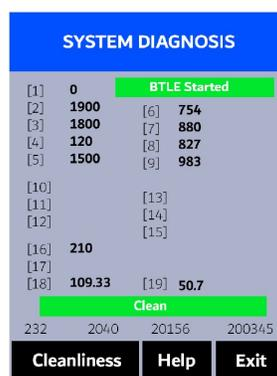
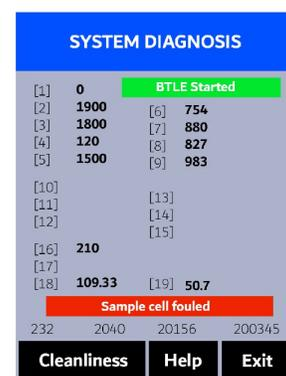

Figure 52.
Figure 53.
8. Once the Cleanliness Check is completed a **Clean** message (Figure 52) or **Sample cell fouled** message (Figure 53) will appear towards the bottom of the display.